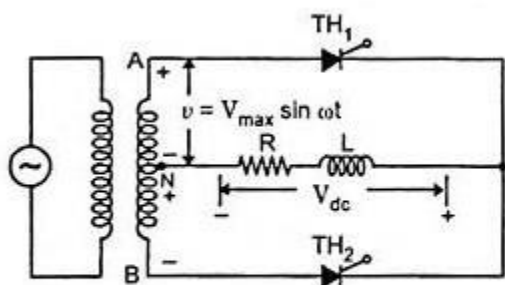
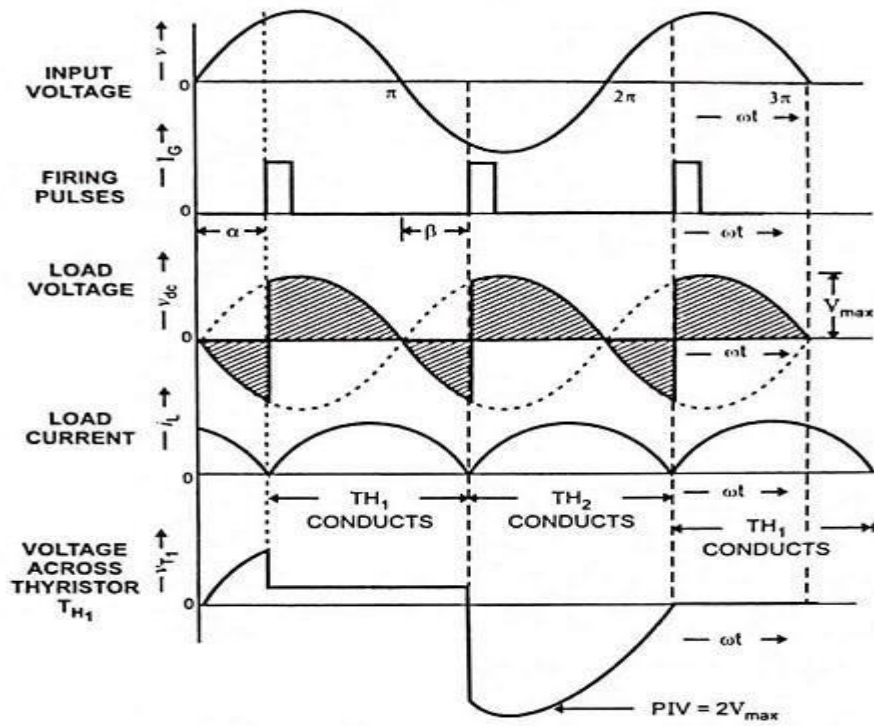
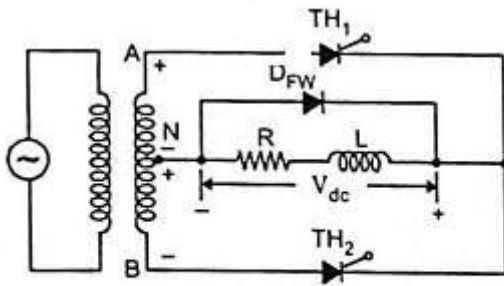

Fig. 27.9 *Mid-Point Converter With Inductive Load*
Fig. 27.10 Waveforms For M-2 Connection With R-L Load
Fig. 27.11 Mid-point Converter With R-L Load and Freewheeling Diode
With Inductive Load: The effect of inductive load in case of mid-point converter is same as in case of half-wave converter, discussed earlier. The circuit of a mid-point converter using inductive load is shown in Fig. 27.9 and associated waveforms are shown in Fig. 27.10. In positive half cycle thyristor TH_1 conducts when it is fired at an angle α . When $\omega t = \pi$ the cycle reverses and the voltage at terminal A goes negative while at terminal B it goes positive. At this value of angle thyristor TH_1 still conducts due to current circulated as a result of decay of energy stored in the inductor. The rate of decay is determined by L/R ratio. When the energy stored in the inductor falls to zero, thyristor TH_1 is turned off and the load current falls to zero value at an angle called extinction angle β . The extinction angle β may be greater than, equal to, or less than the firing angle α depending upon whether the value of inductance is more than, equal to or less than the critical value respectively. In case the extinction angle β is more than the firing angle α , the device is said to be in continuous conducting mode and when both angles α and β have the same value, the mode is called just **continuous conduction mode**. The waveforms depicted in Fig. 27.10 are for just conduction mode i.e. $\beta = \alpha$. In case of discontinuous conduction mode extinction angle β has a value lesser than that of firing angle α .
3. Effect of Freewheeling Diode: Circuit shown in Fig. 27.9 can be modified by using a freewheeling diode as depicted in Fig. 27.11. The operating principle of the rectifier is the same as that of without freewheeling diode except the fact that during the negative cycle, the load voltage becomes zero. The function
It is also observed from Fig. 27.10, that the freewheeling diode D_{FW} carries the load current during the firing angle α when the thyristors are not conducting. Hence the current through the freewheeling diode D_{FW} is given by